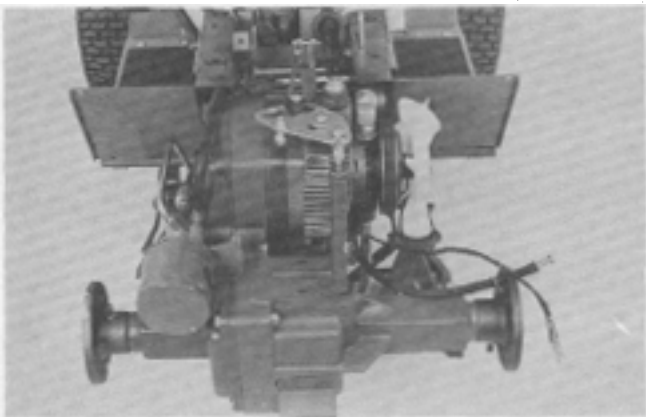

FIG. 22. Fuel Tank/Seat Support Removed
9. Remove fuel tank, seat and fender support as assembly (Fig. 22).